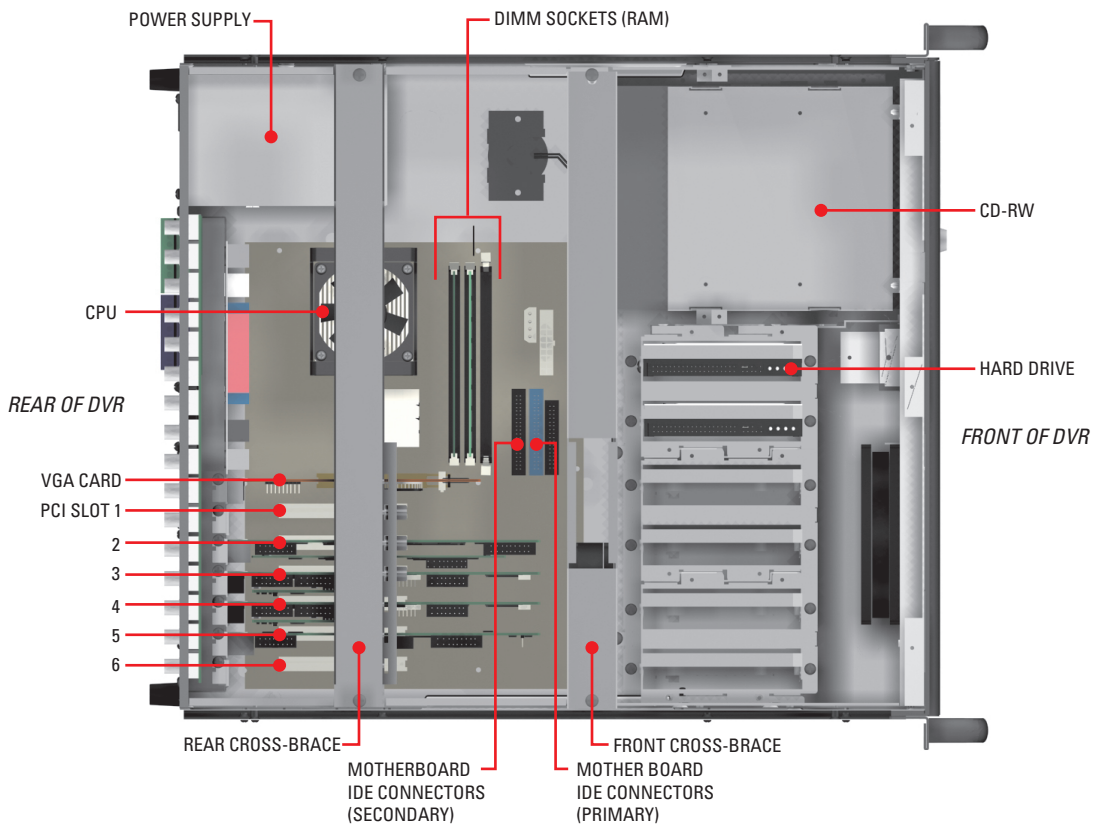

Figure 5. DX8000 Interior
- Carefully remove the chassis cover by sliding it back and up. Set aside the cover. Figure 5 illustrates the interior of the DX8000.
Figure 5 shows the location of your DX8000 Series DVR's major components. Certain cables and components have been omitted from the illustration in this manual for the purpose of clarity.